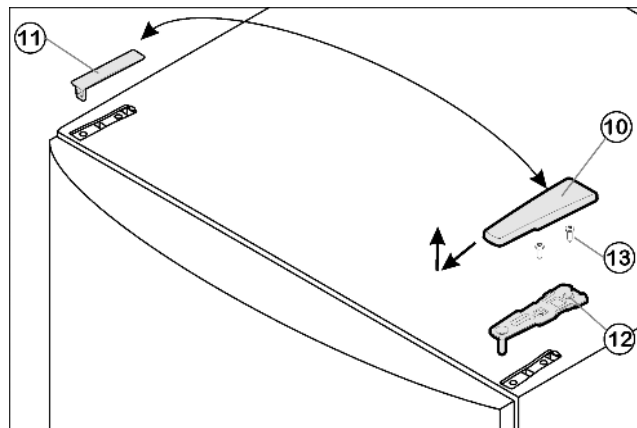

Fig. 4
- ▶ Pull off the cover Fig. 4 (10) forwards and upwards.
- ▶ Lift off the cover Fig. 4 (11).
- ▶ Unscrew the upper turn hinge Fig. 4 (12)(2x Torx® 25) Fig. 4 (13) and lift it off.
- ▶ Insert the upper turn hinge Fig. 4 (12) in the door on the new hinge side.
- ▶ Screw the upper turn hinge Fig. 4 (12) firmly into place (with 4 Nm) (2x Torx 25) Fig. 4 (13). Possibly make preliminary holes with a bradawl or use a cordless screwdriver.
- ▶ Snap the cover Fig. 4 (10) and cover Fig. 4 (11) into place at the opposite side.